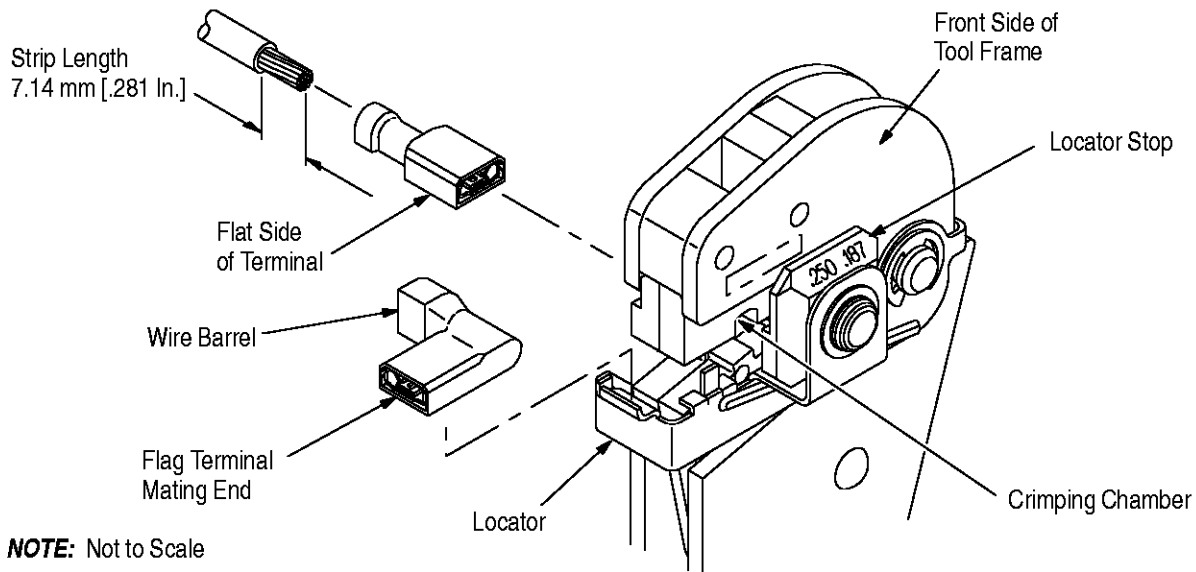

Figure 3
Select the appropriate wire size and terminal for the die assembly. The wire size and insulation diameter must be within a specified range for the terminal. Strip the wire to the appropriate length shown in Figure 3. Do NOT cut or nick the wire strands. Then, proceed as follows:
3. The locator stop must be adjusted to accommodate the terminal series size, which is marked on the terminal insulation (.110, .187, or .250). Rotate the blue plastic locator stop until the series size number, appearing in the uppermost position, matches the terminal series size. Refer to Figure 3.
5. Insert terminal mating end, flat side facing locator, in the BACK side of the tool frame; center on the appropriate crimping chamber on the lower crimping die. Allow terminal to butt against locator stop. See Figure 3.